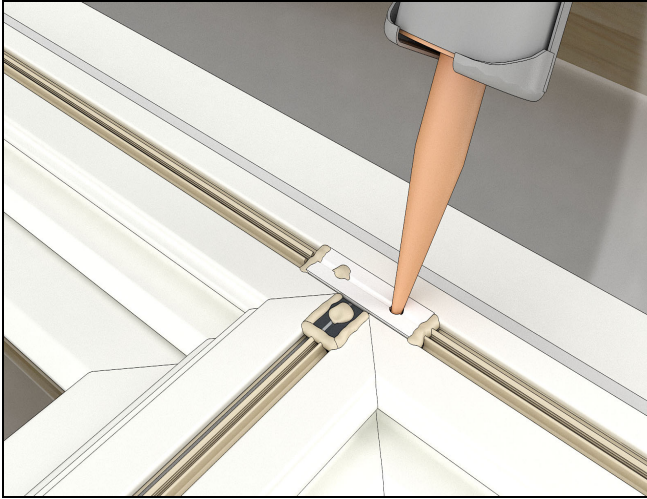

Figure 62
47. Inject end plugs and center plug with sealant until squeeze out reaches specified areas. See Figure 62.